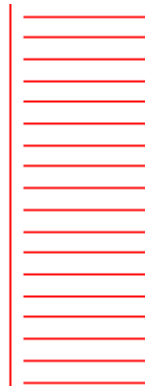

Figure 8-4 Case #1
- o Case #1: The hatch-lines and the border are separated. (Figure 8-4) This is because the **Start TC** Value is too big and it needs to be smaller.